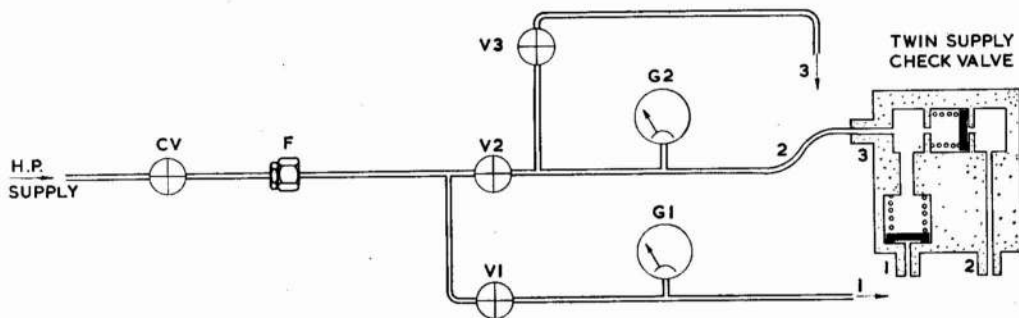
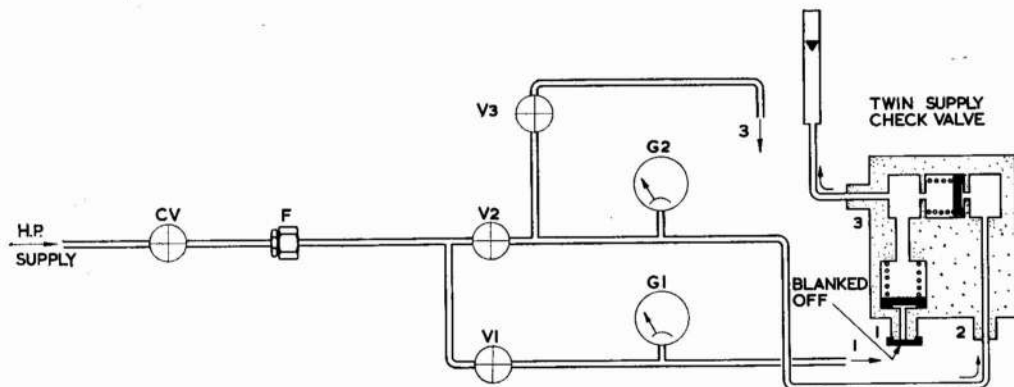

Fig. 7. Test rig, internal leakage test, check valve, 6D/2266
Fig. 8. Test rig, flow test, check valve, 6D/2266
- (2) Reconnect twin supply check valve as shown in fig. 7.
- (3) Ensure that V3 is closed, close V1 and open V2.
- (4) Connect 2-25 cc/min. flowmeter to connection 1 of twin supply check valve. Flowmeter is to indicate not more than 15 cc/min.
- (5) Remove 2-25 cc/min. flowmeter and connect it to connection 2. It is to indicate not more than 15 cc/min.
- (6) Exhaust the system and remove the flowmeter.
- (7) Reconnect the twin supply check valve as shown in fig. 8.
- (8) Blank off connection 1 of the twin supply check valve.
- (9) Ensure that V1 and V3 are closed, V2 is open.
- (10) Adjust CV until G2 indicates 10 lb/in².
- (11) Flowmeter is to indicate not more than 15 cc/min.
- (12) Exhaust the system and remove the flowmeter.